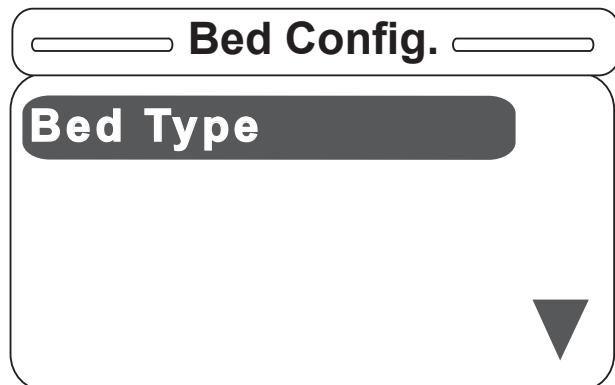

Figure S-35
- The Bed Config. menu will then only display the Bed Type menu item as shown in Figure S-35 and the user can now re-enter all the bed information starting with the Bed Type.